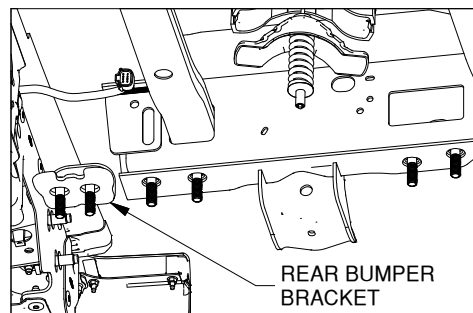
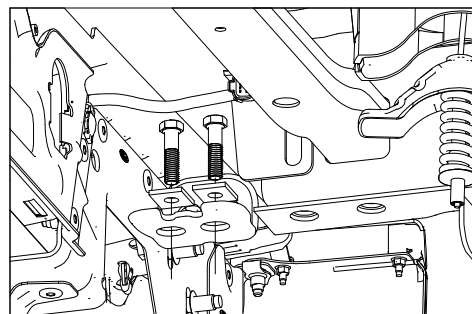

Figure B1: Under Driver side of frame.
Figure B2: Detail of end of frame.
1. Locate the six hardware mounting locations on each side of the frame towards the rear of the truck, see figure B1. Each hole will need a locking strap or square washer. The four holes in the rear bumper brackets, will each receive a square washer and a 1/2" x 2" cap screw, see figure B2. The eight holes in frame will receive four locking straps and eight 1/2" X 2" carriage bolts. The locking straps can be inserted from the end of the frame and a cut out in the inside of the frame, see figures B3 & B4.